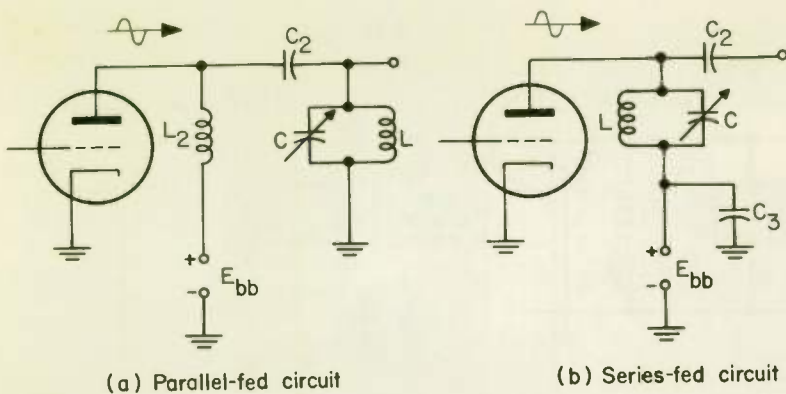

Fig. 6
1. Refer to Fig. 6, where a series-fed plate circuit and a parallel-fed plate circuit are shown. In the parallel-fed circuit of Fig. 6(a) the d-c plate current flows out of the plate supply E_{bb} through the tube and returns to E_{bb} through (a) _____ . In the series-fed circuit of Fig. 6(b) the d-c plate current flows out of E_{bb} through the tube and returns to E_{bb} through (b) _____ . In the parallel-fed circuit the a-c signal to be amplified appears on the plate of the tube and passes through C_2 to the output. The high impedance of (c) _____ prevents this signal from being shorted to ground through E_{bb} . This signal is not shorted to the ground at the output because the LC circuit is resonant at its frequency and hence has a (d) *(large)* *(small)* impedance. In the series-fed circuit the signal to be amplified again passes from the plate of the tube to the output terminal unaffected since the high impedance of the (e) _____ circuit prevents it from being shorted to ground through E_{bb} or C_3 . In the parallel-fed circuit, any unwanted signal of different frequency appearing at the plate of the tube passes through C_2 and is immediately shorted to ground by the (f) _____ circuit. In the case of the series-fed circuit, the unwanted signal is shorted to ground through the (g) _____ circuit and (h) _____ .